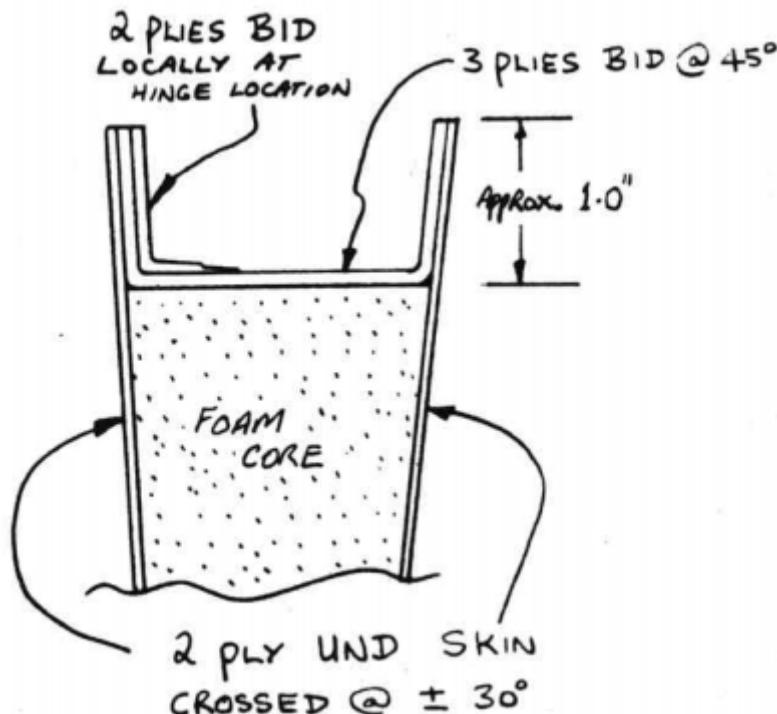

Figure 20-24: Remove foam and reinforce winglet and rudder
The rudders will be hinged to the verticals with three (3) hinges. The bottom hinge is 6" long, the middle and top hinges are 4" long. Use a rotary file in an electric drill or your dremel, and remove foam as shown in Figure 20-24. You should dig out about 0.6" along the top and bottom of the rudder and of the winglet and about 1.0" deep along the hinge line of the rudder and of the winglet.